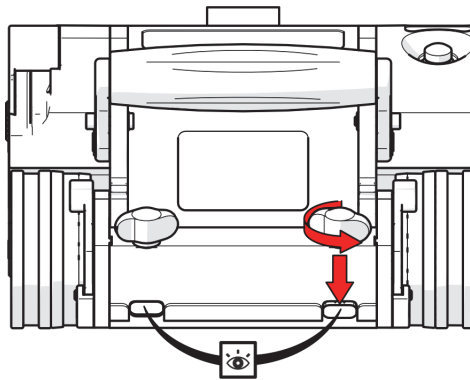

Figure 2-8 Align dovetail jaws
4. Alternatively, accessories can also be mounted directly to the swivel mount. Rotate the black wing knobs, aligning the dovetail jaws with the mount's grooves (see Figure 2-8 on page 52).